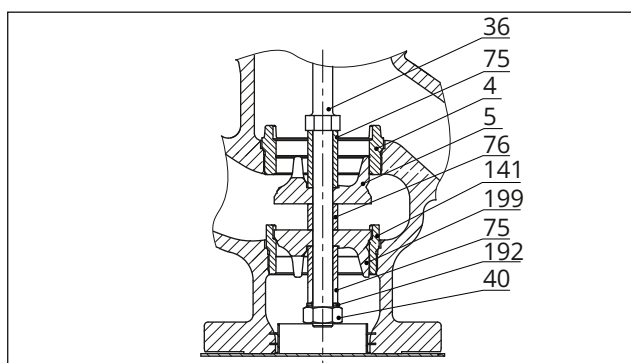

Fig. 26: Valve in DN 65/NPS 2½ and larger · Mixing valve
13. Screw in the bottom seat (161). Observe tightening torques.
14. Insert the bottom plug (199) into the bottom seat (141).
15. Screw in the top seat (4). Observe tightening torques.
16. Carefully guide the plug stem (36) with top spacer (75) from above through the top plug (5), short spacer (76) and bottom plug (199).
17. Slide the bottom spacer (75) and retaining washer (192) from below onto the plug stem (36).
18. Apply a suitable lubricant to the hex nut (40) and the threaded end of the plug stem (36).
19. Thread and tighten the hex nut (40) onto the plug stem (36). Observe tightening torques.
20. Apply a suitable lubricant to all packing parts and the plug stem (36).
21. Carefully place the valve bonnet (2) over the plug stem (36) and the studs (13) onto the body (1). Make sure that the gasket (17) is properly seated in the body.
22. Carefully slide the packing parts over the plug stem into the packing chamber using a suitable tool. Observe the proper sequence (see Fig. 26).
23. Fasten the valve bonnet (2) with body nuts (14). Tighten the body nuts gradually in a crisscross pattern. Observe tightening torques.
24. Apply a suitable lubricant to the thread of the threaded bushing (8). Screw in the threaded bushing and tighten it. Observe tightening torques.